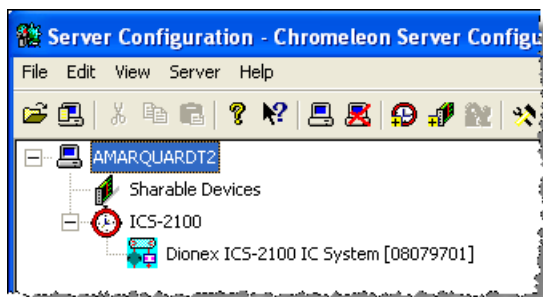

Figure 22. Example Server Configuration with IC System Added to the Timebase
3. After selecting the device properties, click **OK** to close the dialog box. The IC system is added to the timebase (see Figure 22).